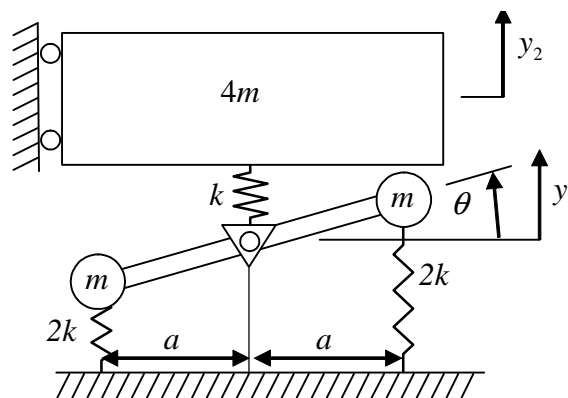

Fig. 4
4. The twin axle ‘walking beam’ suspension of a heavy lorry can be modelled as shown in side view in Fig. 4. A light, rigid beam of length $2a$ joins two axles of mass m . The beam is connected in the middle to an undamped spring of stiffness k through a frictionless pivot. This spring is attached to the body of the vehicle, which has mass $4m$. The axles have undamped tyres of stiffness $2k$, which are effectively connected to the ground. The centre of the beam has vertical displacement y_1 , the vehicle body is constrained to move vertically with displacement y_2 , and the beam has pitch rotation θ .